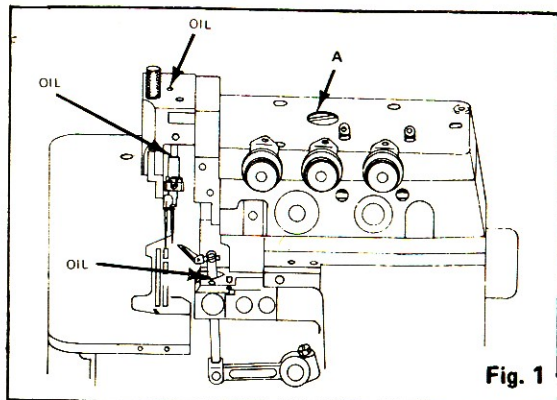

Fig. 1
(1) Lubrication Fig. 1
Lubrication Fig. 1